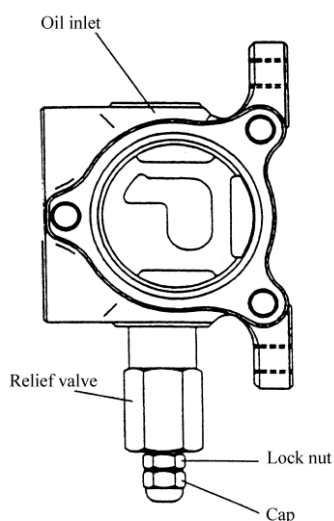

Fig.7-3 Setting pressure of relief valve
(2) Setting pressure of the relief valve (Fig7-3)